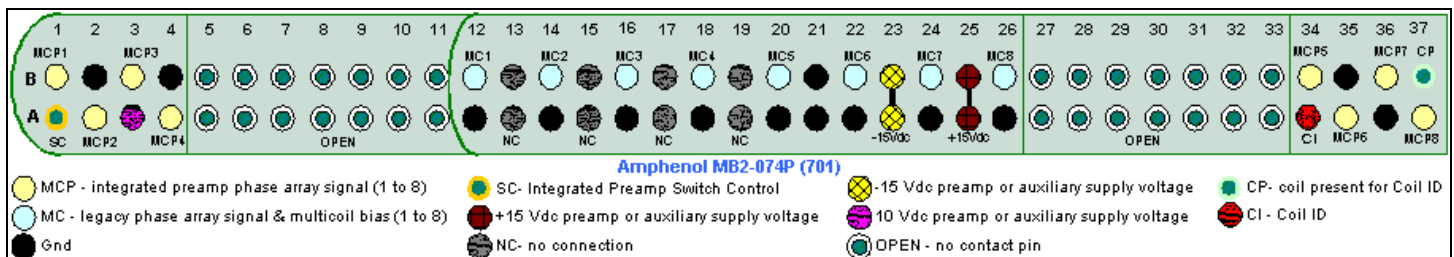

Figure 8: 60 pin Bendix connector.
Step 2 – Orient the connector as shown in *Figure 8*.